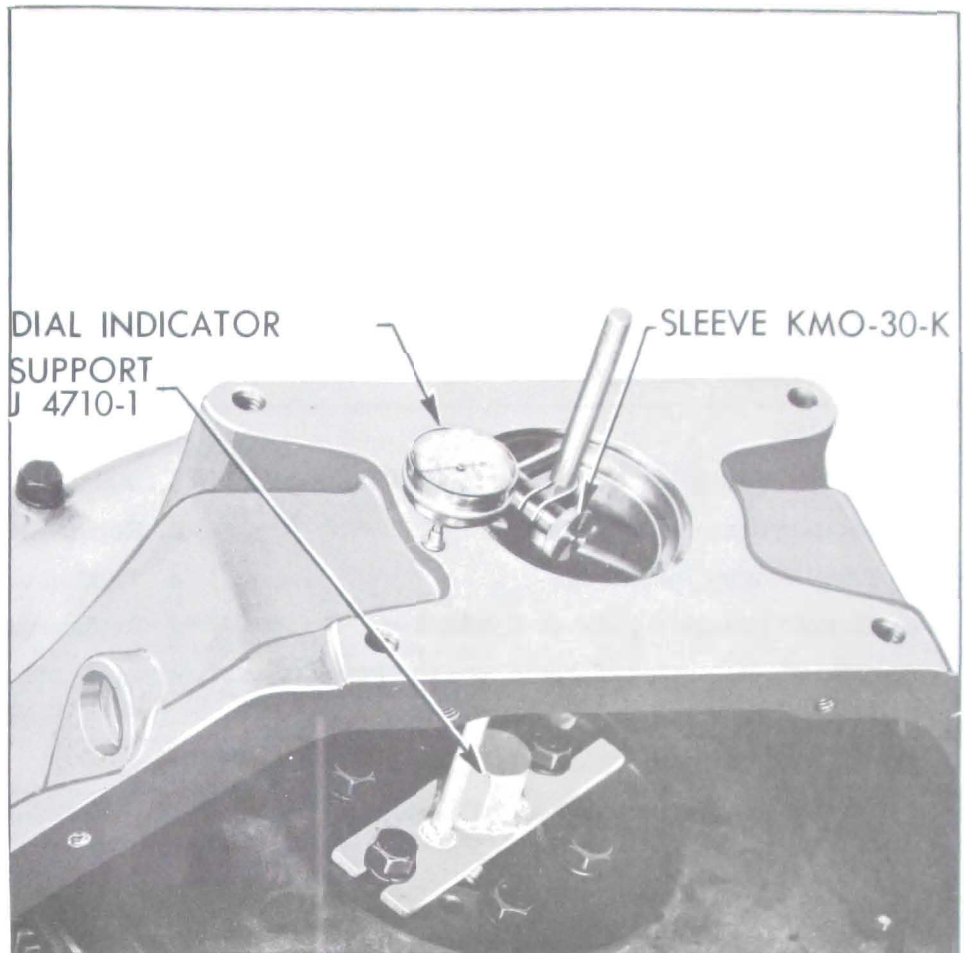

Figure 4-14—Checking Run-Out of Rear Face of Housing
7. Mount dial indicator to bear against rear face of flywheel housing at a radius of 2 1/2", as shown in Figure 4-14.